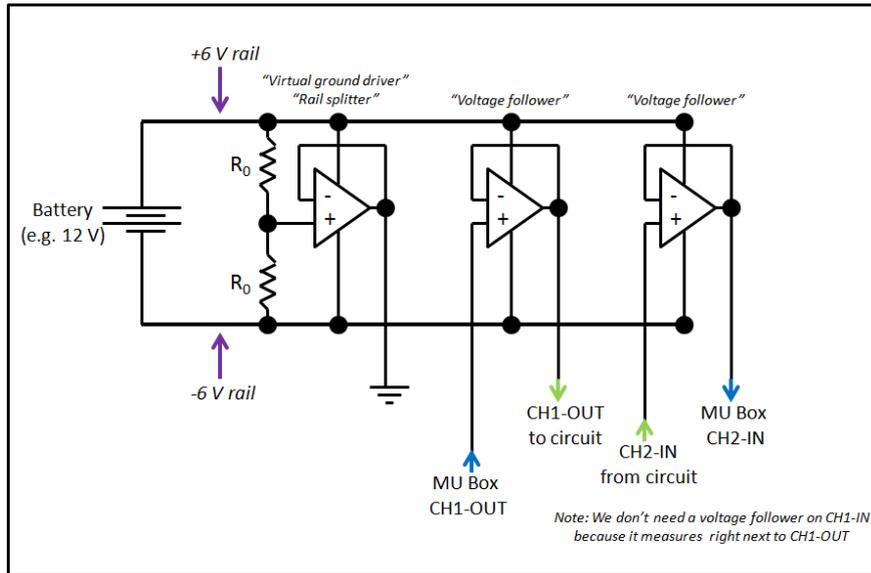

Figure 3: Circuit to power the op-amps. We split the battery voltage to power the op-amps using a voltage divider (e.g.  $R_0 = 1[\text{k}\Omega]$ ).
Your breadboard will have two main interconnected circuits: A circuit to power your op-amps, and a circuit to measure a test impedance. Please study both parts of the circuit (Figs. 3 and 4) before you begin, so you can plan your breadboard accordingly.
1. **Op-Amp circuit:** Build the Op-amp breadboard that we will use to measure the loudspeaker impedance, as described below and shown in Figure 3. The purpose of the Op-amps is to isolate the measurement from the finite impedance of the MU box. The circuit diagrams of the MU box are provided in the 'DOC' folder of the software package. Based on these circuit diagrams, one may determine the Thévenin source impedance of the output voltage, and the input (load) impedance of the input circuits. There are two critical op-amps, one for output
- (b) Drive the circuit from CH1 of the MU-box. *NOTE: If you do not use an Op-amp with a low impedance output (0 [ohms]), as described in Fig. 3, your results will not be as good as they could be.*